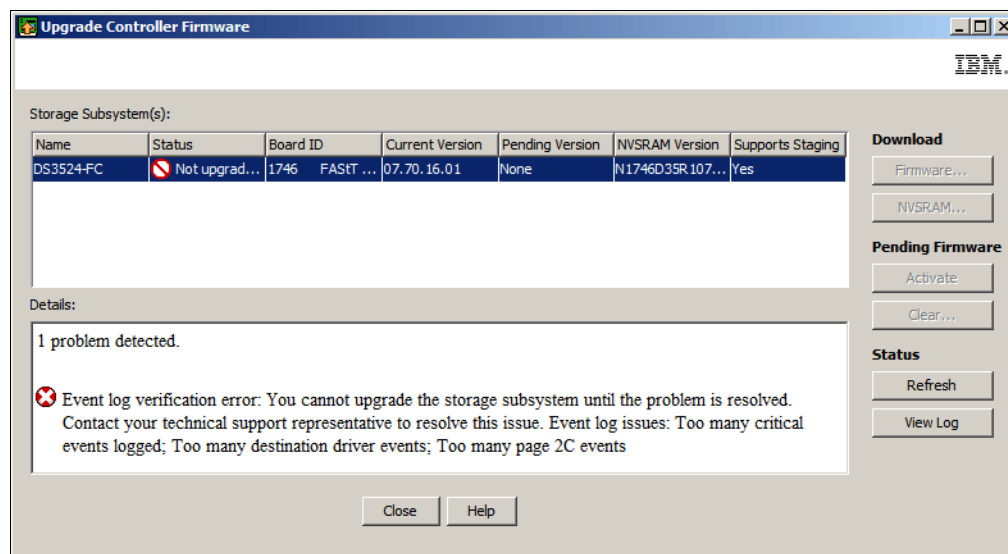
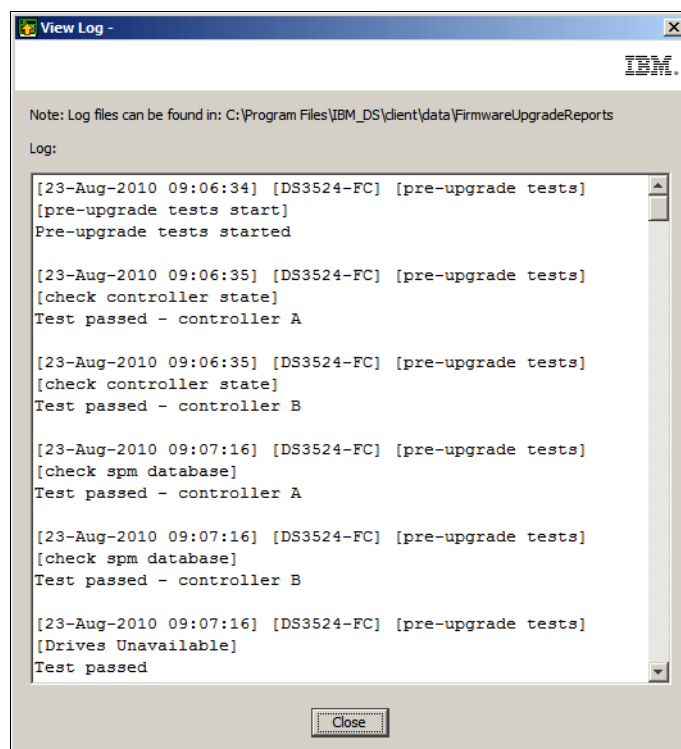

Figure 14-37 Upgrade Controller Firmware
Figure 14-38 Viewing the firmware upgrade tool log
The storage management software checks for existing conditions in the storage subsystem that will prevent a successful firmware upgrade before upgrading the firmware. If it detects one of these conditions, the firmware upgrade tool reports the status of the DS3500 storage system as *non-upgradeable* (see Figure 14-37 on page 356). Any of the following conditions can prevent the firmware upgrade:
**Note:** The location where the firmware upgrade tool log files are saved on your system is reported at the top of the firmware upgrade tool View Log window. See Figure 14-38 on page 356.
2. The **Upgrade Controller Firmware** window appears (Figure 14-37 on page 356). In the example displayed in Figure 14-37 on page 356, the upgrade tool reports that the
If the firmware upgrade tool reports a status of *non-upgradeable* as shown in Figure 14-37 you can click the **View Log** button to review the cause of the non-upgradeable status. Figure 14-38 shows the upgrade log.